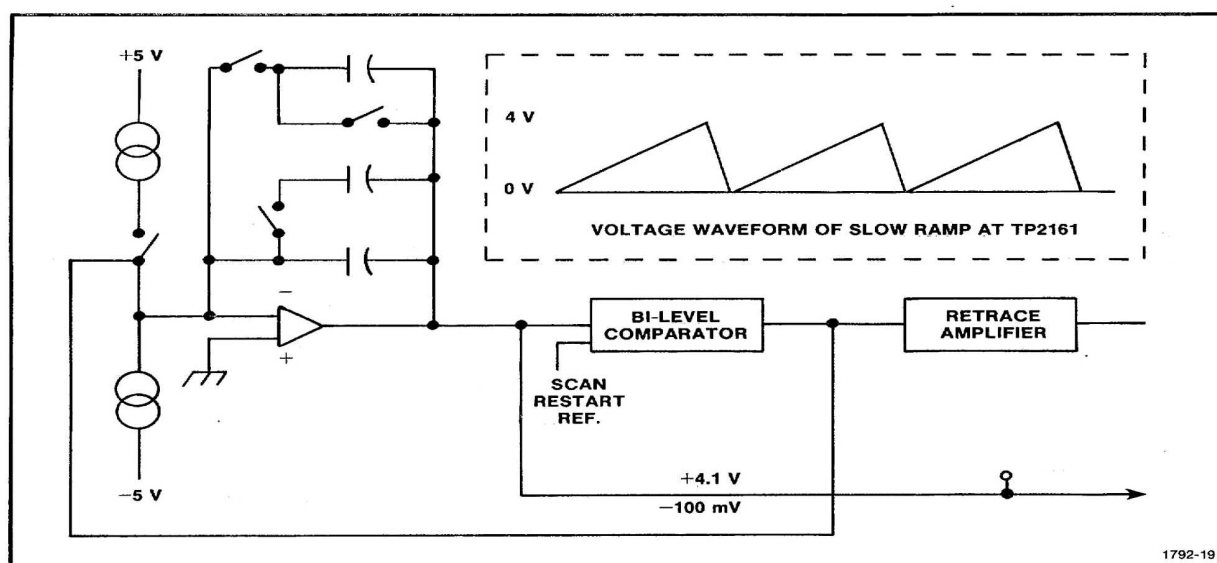

Figure 3-5. Functional Block Diagram of Slow Ramp Generator.
**Slow Ramp (Schematic 3).** The Slow Ramp Generator consists of an integrator, a bi-level comparator, a positive current source, a negative current source, a retrace switch, and a retrace signal amplifier. A functional block diagram of the Slow Ramp Generator is shown in Fig. 3-5.
**Integrator.** An inverting amplifier circuit with an FET input is used as an integrator. Integrator capacitor C2356 is connected between the collector of Q2345 and the inverting input (gate of Q2246A). A minus current applied to the inverting input through R2353 results in a linear rising voltage on the output (see the waveform shown in Fig. 3-5). This output voltage will continue to rise until it reaches the internal comparison level of 4.1 volts. The bi-level comparator output then switches to a higher output level to close FET switch Q2257. It also changes its comparison level to -0.1 V. This allows a positive current to be applied to the input of the integrator. The positive current is several times larger than the negative current and causes the output voltage of the integrator to decrease linearly. After a short period of time, the integrator output voltage approaches this comparison voltage of -0.1 V and causes the positive current into the integrator to be turned off. At this time the comparator level is switched back to the 4.1 V level and the cycle starts over.